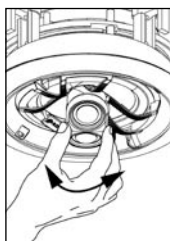

Figure 4. Tweeter adjustment
9. Direct the tweeters. The dual tweeter module is directed by gently pressing on the outer edge of the tweeter housing. It will move in any direction and can be positioned independent of the woofer assembly. For enveloping surround sound, create more reflections and thus more ambiance by directing the tweeters towards the sidewalls. (See **Figure 4**)